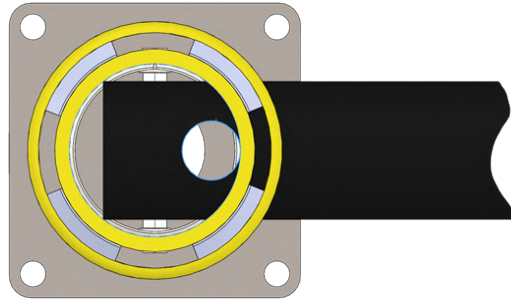

Figure 2. Proper placement of the end of the section element inside the post.
1. Insert the two black section elements against the stop into the holes of the larger finite post. The axes of the through-mounting holes in the section elements both here and later on must be placed vertically. At the same time, the end of the section element must stop at the inner wall of the pipe inside the post, while the contour of the section element mounting hole must be positioned at a tangent to the inner surface of the inner pipe of the post. (Fig. 2, key lines are marked in blue).
2. Use the longer of the available fixing pipes through the hole to fix both elements of the section inside the finite post (Fig. 2).